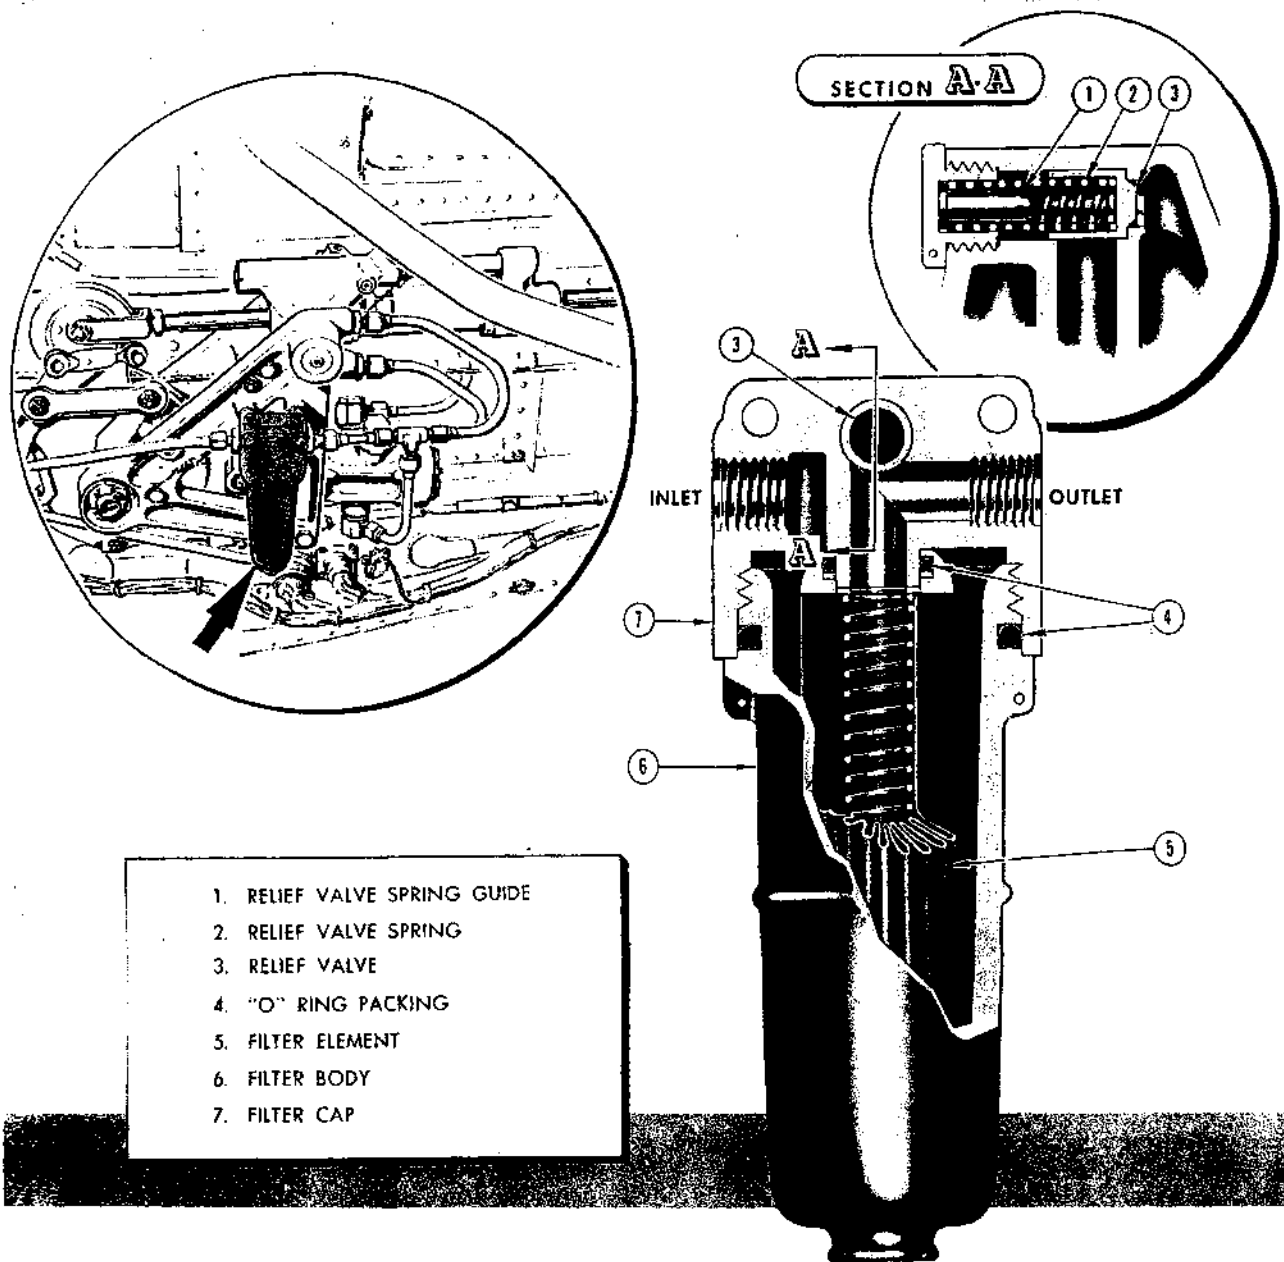

Figure 171 — Aileron Booster Filter
(5) AILERON BOOSTER FILTER. (See figure 171.)—The aileron booster filter is in the pressure line and insures a supply of clean fluid to the booster hydraulic unit. The filter has a capacity of 3 gallons per minute.
(6) AILERON BOOSTER SHUT-OFF VALVE. The aileron booster shut-off valve is an Adel, Part No. 16892-7, valve. Manually operated, it is controlled by a lever at the left-hand cockpit control panel. When the valve lever is moved to the "OFF" position, hydraulic pressure to the aileron booster is cut off.